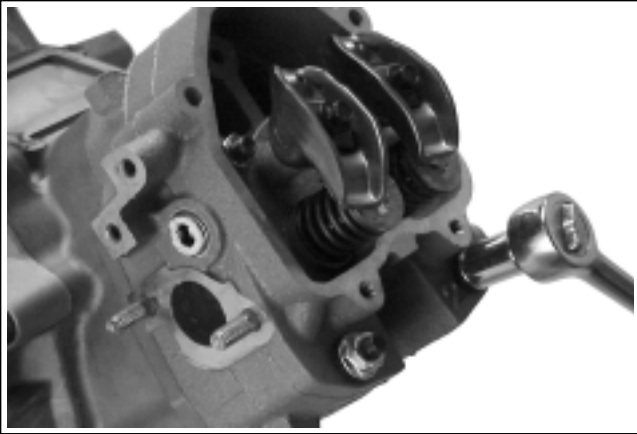

Figure 9-65. Removing Hex. Flange Nuts and Washers from Studs.
4. Remove the four hex. flange nuts and washers from the studs securing each cylinder head. See Figure 9-65.